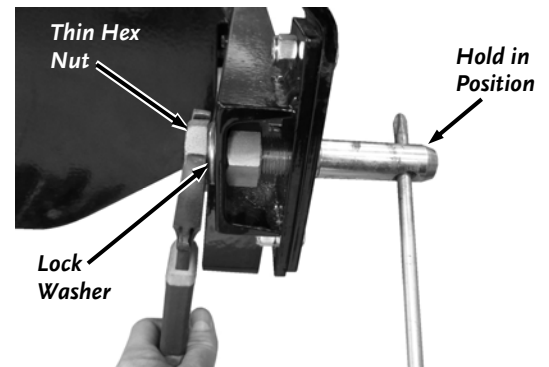

Figure 10
4. Install the Lock Washer and thin Hex Nut onto the threaded end of the Pin by hand (**Figure 10**).